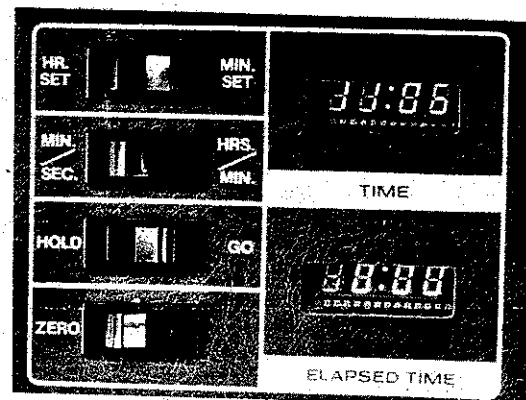

Figure 2-5. Digital Clock/Elapsed Time Display
- ⑭ **CLOCK PANEL** — As shown in figure 2-5, this panel includes a digital readout. Four switches to the left of the display set clock timing. To set **TIME** display, press **HR SET/MIN SET** switch to **HR SET** position and hold until correct hour is displayed; repeat with switch in **MIN SET** position until correct minutes are displayed.